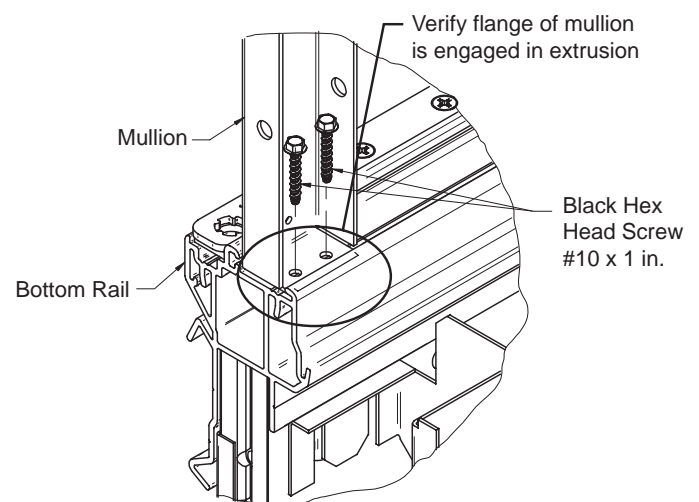

Figure 11-3
B. Fasten **Black / Grey Hex Head Screws** at bottom rear of mullions as shown in Fig. 11-3.